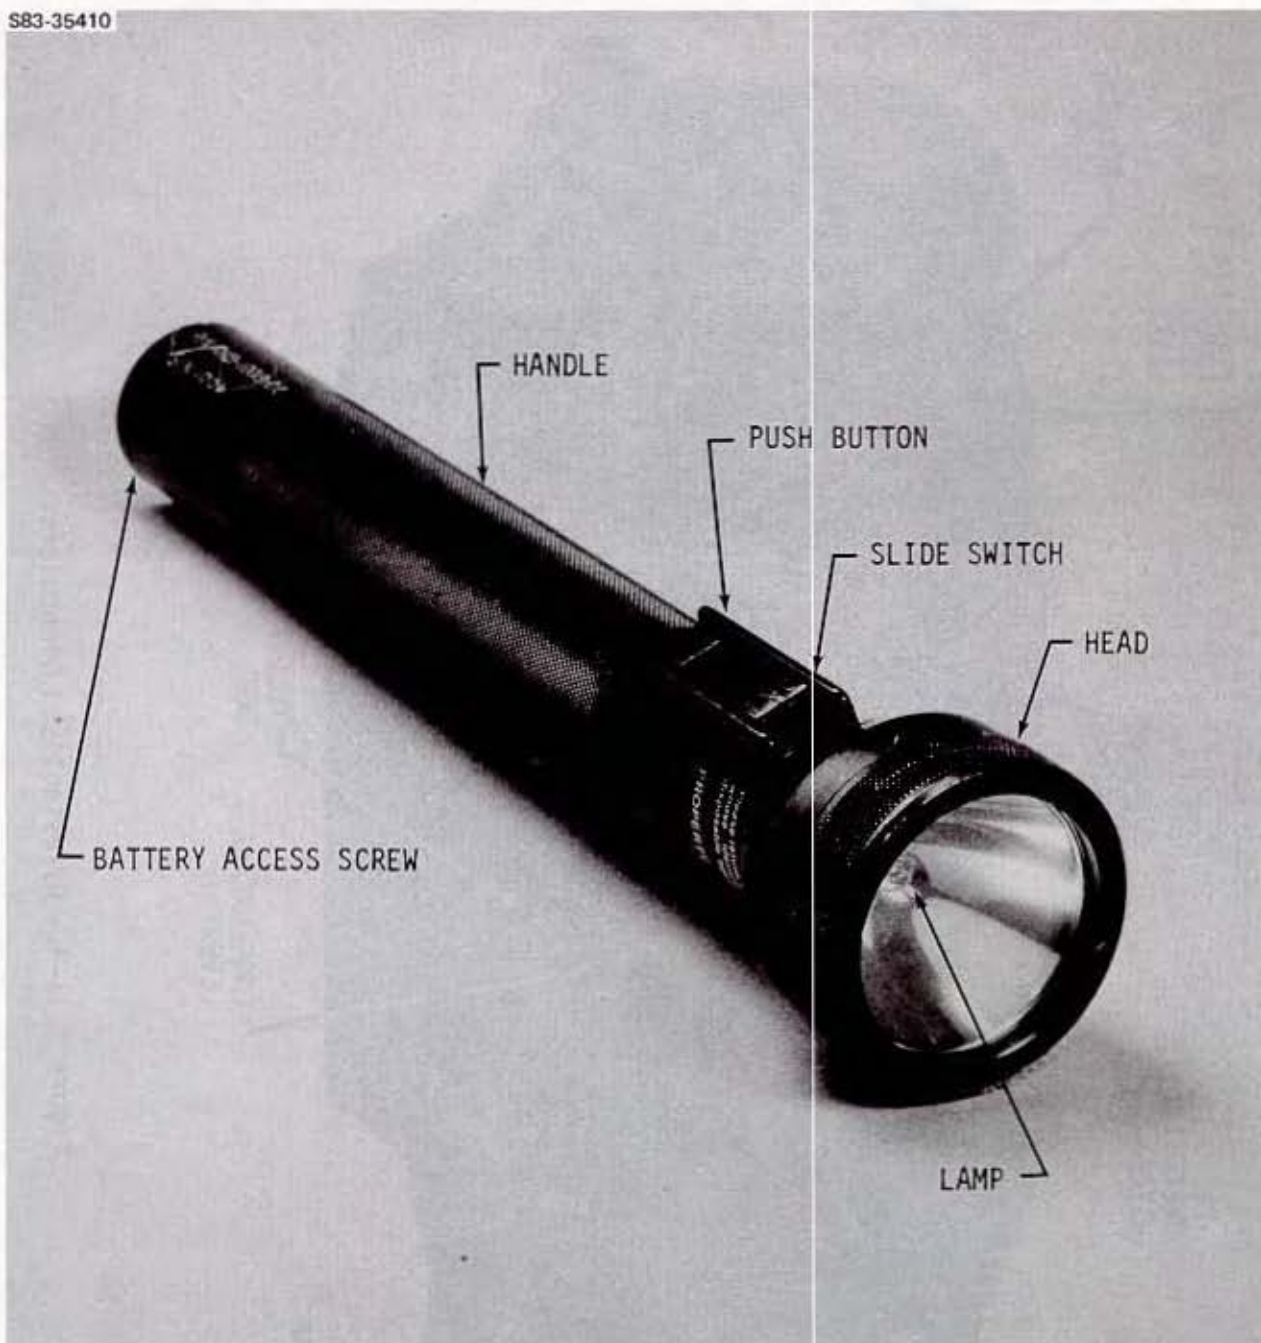

Figure 3.11-5.- Spotlight.
- Spotlight - fig. 3.11-5
The spotlight (fig. 3.11-5) is a high intensity, handheld flashlight and is powered by a battery pack consisting of five 1.2-volt 1/2-D nonstandard size nickel-cadmium batteries. A spare battery pack will normally be flown. The spotlight produces a 20 000 candlepower output with a continuous running time of 1.5 hours. The lamp is a 6-volt tungsten filament and cannot be replaced in flight.